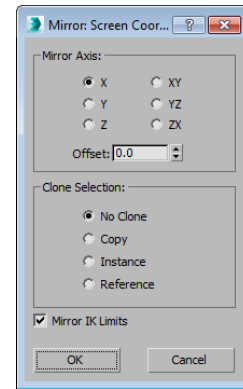

Figure 3-50 The *Mirror: Screen Coordinates* dialog box
2. Choose the **Mirror** tool from the **Main Toolbar**; the **Mirror: Screen Coordinates** dialog box is displayed, as shown in Figure 3-50.